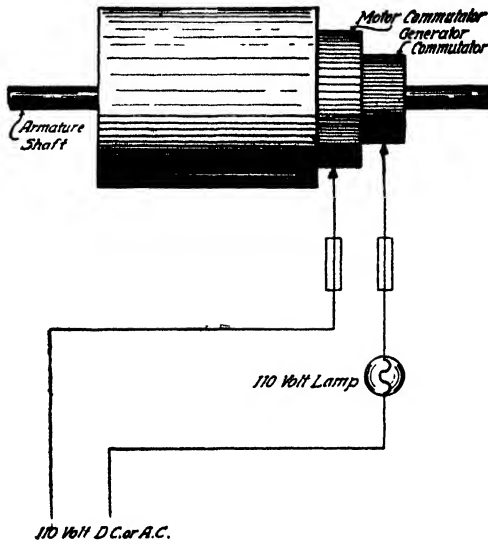
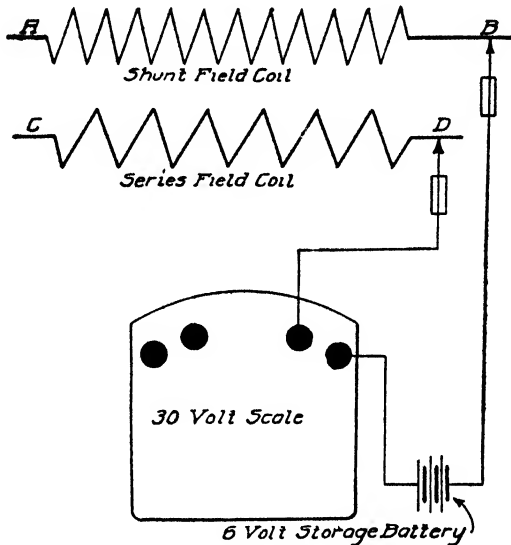

Fig. 55. Diagram for Locating Short-Circuits between Motor and Generator Armature Coils
Fig 69 Voltmeter Test Diagram for Short-Circuit between Coils
lights, it indicates a short-circuit between the generator and motor windings, Fig. 55. This test is naturally only applicable to single-unit machines having two independent windings on the same armature core, as in the case of the Delco, the type in question.
*Short-Circuits between Coils.* The test for short-circuits between coils is similar to that shown in Fig. 55 and naturally applies to all lighting generators where the two windings of the fields are concerned. Place one end, or point, on the terminal of one winding and the other end on the terminal of the other winding, as shown in Fig. 69. If there is no connection between the coils, as should be the case,